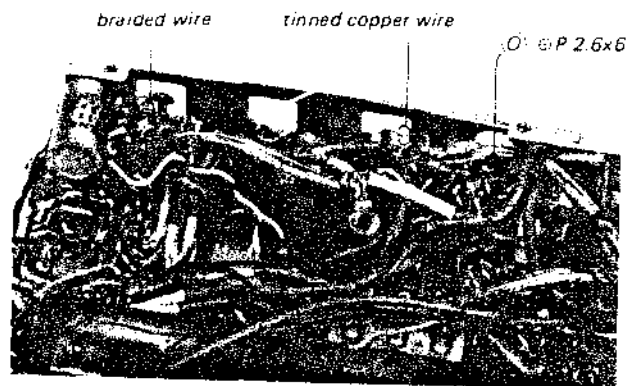

Fig. 2-12
15. Unsolder the braided wire and tinned copper wire indicated in Fig. 2-12.
16. Remove the screw (#P 2.6x6) marked (O) in Fig. 2-12.